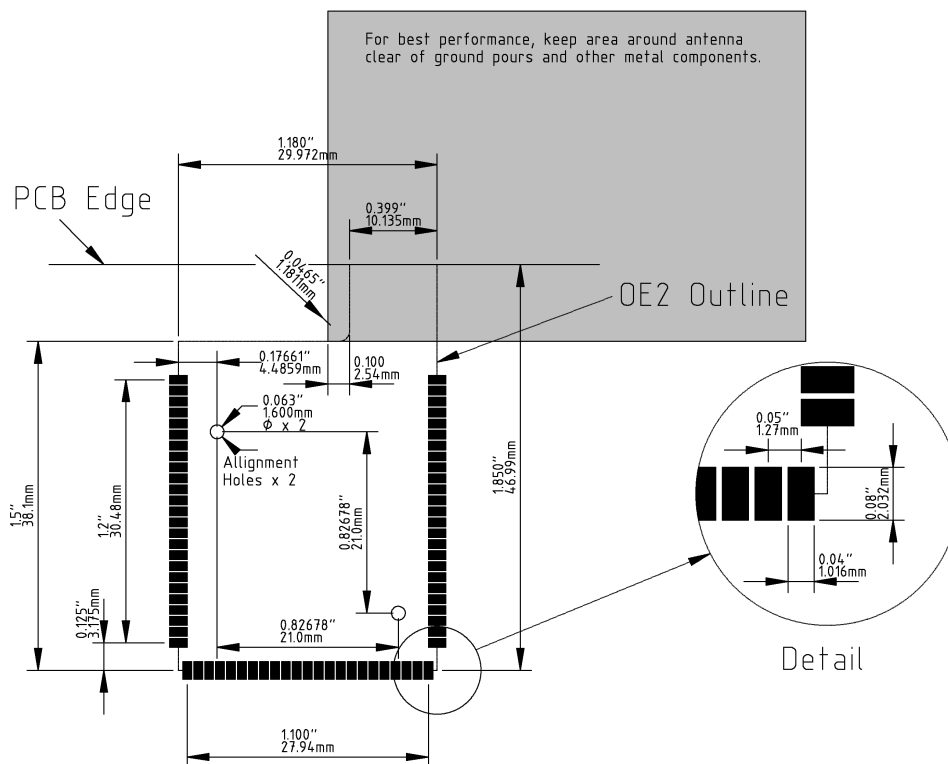

Fig 5: Suggested Footprint For Printed Circuit Board Layout
- When mounting the IE2 Module onto a host PCB, use the suggested PCB footprint in Figure 5 for best results.